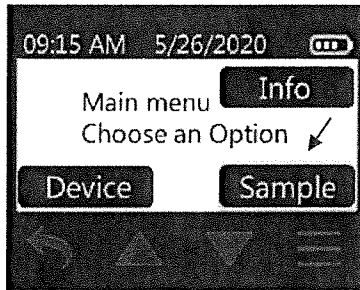

Figure 21. Sample Button
- Press the main menu button (three Horizontal lines below the display) to get to the Main Menu and touch Sample (Figure 21).